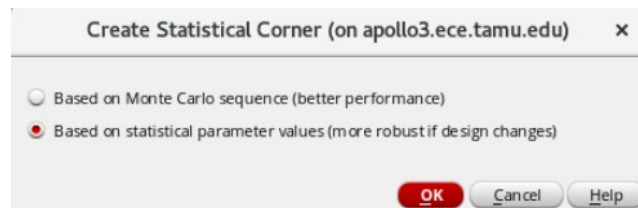

Fig 3. Creating a statistical corner
5. Extract the worst & best case 3σ statistical corners for A_{v0} , GBW, PM(Refer [3]) and use the option shown in Fig 3.